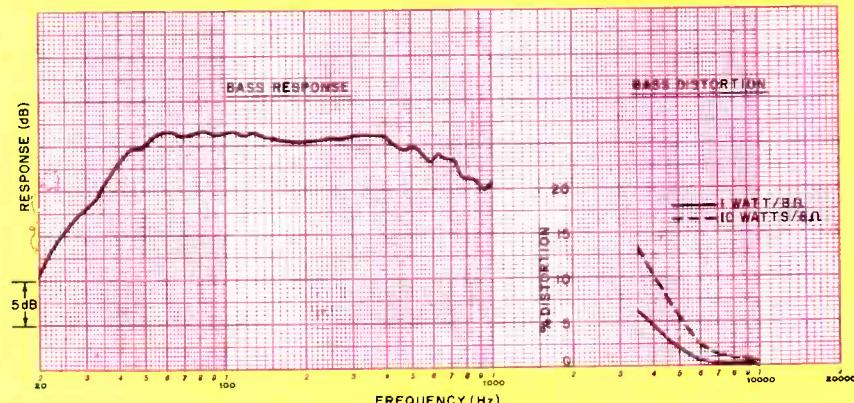

Fig. 2. At left is a typical bass response from 20 to 1000 Hz. At right are typical distortion curves below 100 Hz at two power levels.
Although the curve obtained extends down to 100 Hz, it is not valid below about 300 Hz because of the unavoidable resonance effects of our room. At lower frequencies, we place the microphone as close as possible to the woofer's cone and run a curve from 20 to 1000 Hz (Fig. 2). (No warble tone is needed since close-microphone measurement is not affected by the room and gives essentially a true anechoic response.) This measurement is not valid much above 300 Hz, where the dimensions of the woofer cone become comparable to the wavelength of sound, but we carry it up to 1000 Hz for the same reason that our quasireverberant measurement is carried down to 100 Hz.
**Other Tests.** We also measure the harmonic distortion of the woofer between 100 Hz and its lower frequency limit (Fig. 2). We use the same close microphone technique here employed for the bass response measurement, but the microphone's output goes to a spectrum analyzer instead of a chart recorder. The output levels of second and third harmonics (higher order components are almost never significant) are combined to obtain a THD reading at each 10-Hz frequency increment. The woofer is driven with a constant 2.83 volts and then at a constant 8.94 volts, which correspond to power levels of 1 watt and 10 watts into an 8-ohm load. We do not measure distortion at higher frequencies because the irregularity of the system's response makes the test impossibly complicated unless very specialized automatic plotting equipment is used.